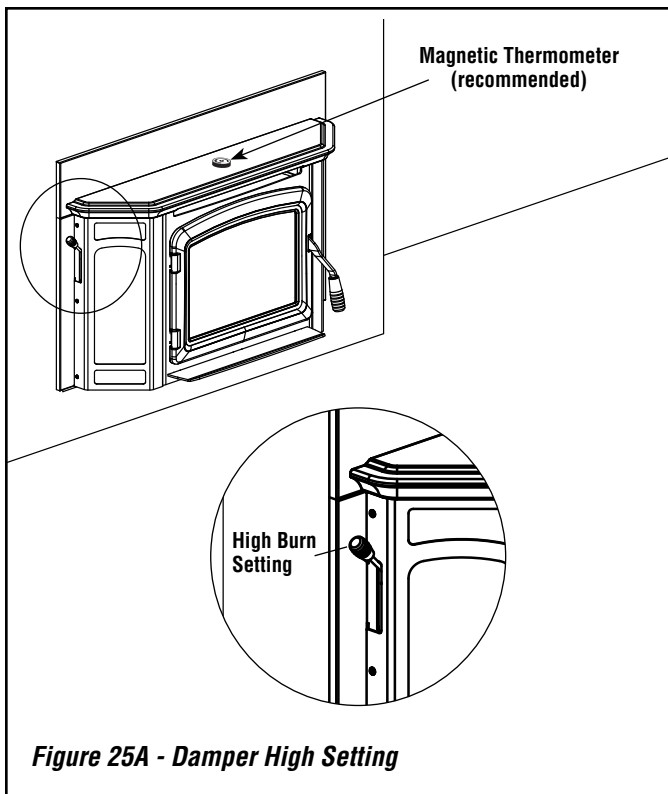

Figure 25A - Damper High Setting
5. When operating any wood burning appliance, it is important to become familiar with how the damper control affects heat output and the overall temperature of the appliance. A stove thermometer can be a helpful tool to help ensure you are not over-firing your appliance and it will also ensure you are burning fuel at a rate that is most efficient. Place a stove thermometer on the top of the appliance as shown in **Figure 25A**. Monitor the temperature every 15 minutes or so until you become more familiar with your appliance. Close the damper all the way down if you begin to reach 400 degrees, as this is a sign that you are operating your appliance at too high a temperature.